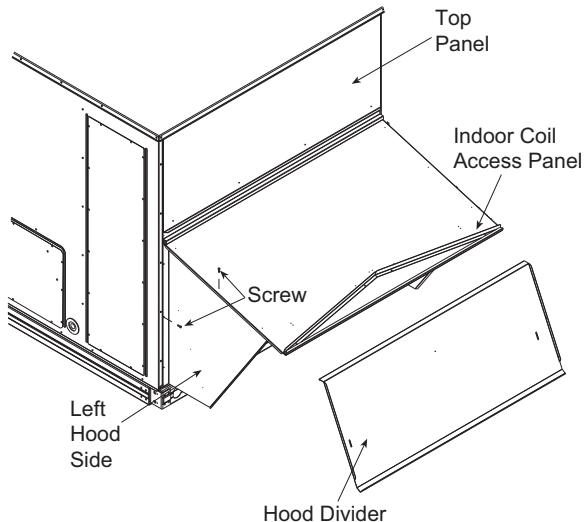

Fig. 12 – Economizer Hood Construction
2. Swing out indoor coil access panel and insert the hood sides under the panel (hood top). Be careful not to lift the panel too far, as it might fall out. Use the screws provided to attach the hood sides to the hood top. Use screws provided to attach the hood sides to the unit. See Fig. 12.
4. Insert the hood divider between the hood sides. See Fig. 12 and 13. Secure hood divider with 2 screws on each hood side. The hood divider is also used as the bottom filter rack for the aluminum filter.